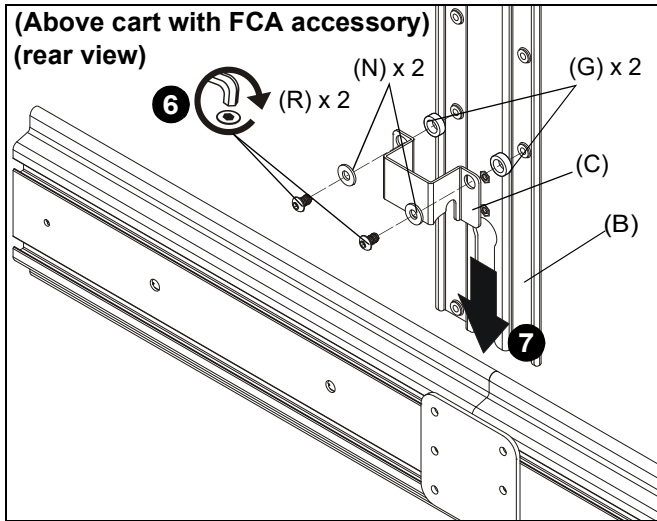

Figure 19
- Use two 1/4-20 x 7/16" button head cap screws (R), two large washers (N) and two 1/2" spacers (G) to secure shelf bracket (C) to main bracket (B). (See Figure 19)
- Slide main bracket (B) onto front of cart mount head assembly until shelf bracket (C) rests on top of head assembly. (See Figure 19)